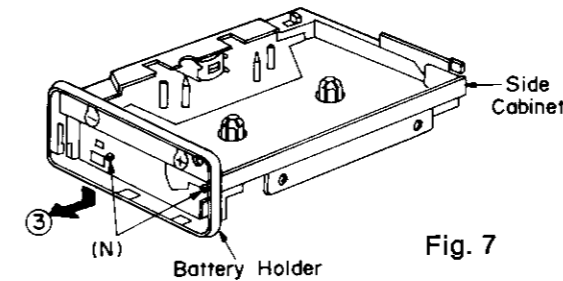

Fig. 7
1. Remove the screw (N) (1.4 × 2.5)mm × 2. (Fig. 7)
2. Remove the Battery Holder in the direction of the arrow ③. (Fig. 7)